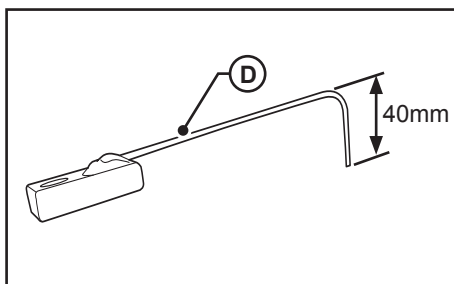

FIGURE 4b
- To ease the installation of the M12 tapped plate, bend the end of the wire 90 degrees approximately 40mm in length to create a handle as shown in Figure 4b.